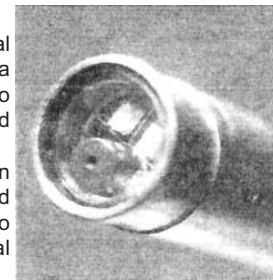

Fig 3
- b. Gently use a cotton swab lightly dampened with isopropyl alcohol to clean glass distal window - Fig. 3.